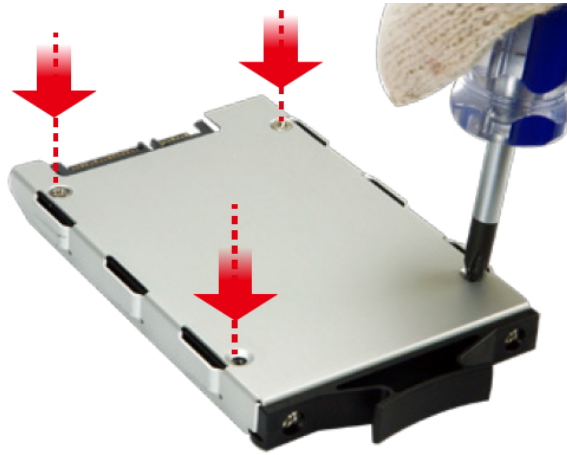

Figure 3-3: SSD Retention Screws
Step 3: Place an SSD onto the drive tray and secure the SSD with the bracket by inserting four retention screws (M3*4) into the bottom of the SSD (**Figure 3-3**).